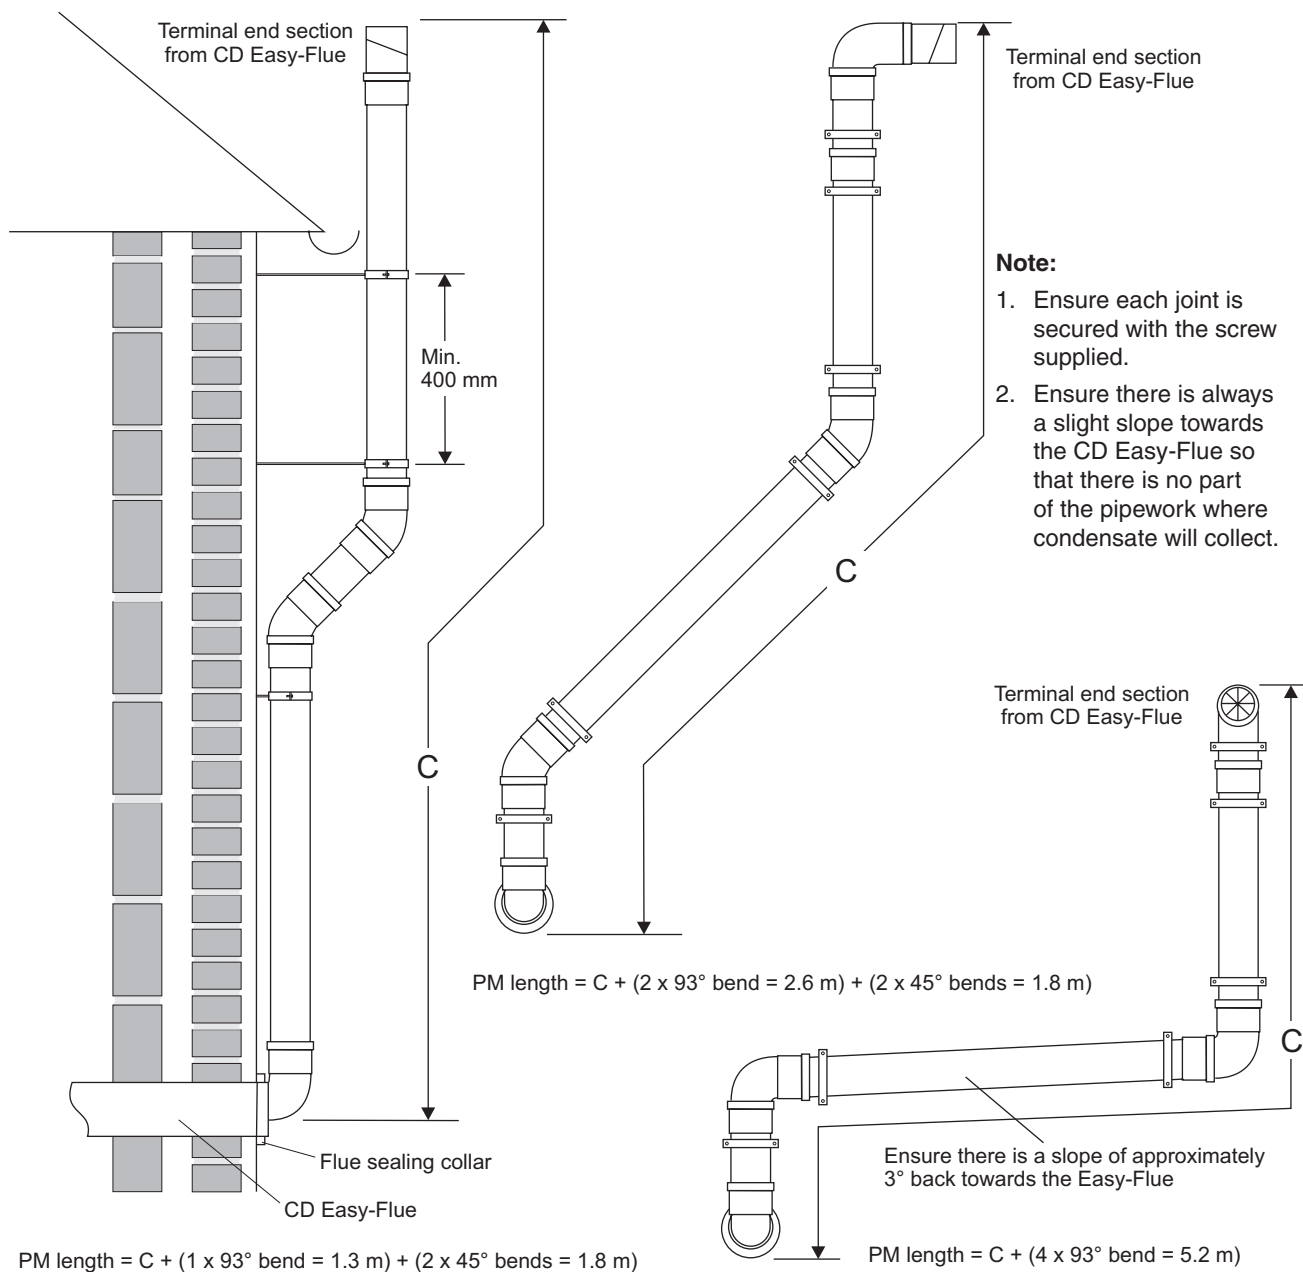

Fig. 5.13
- iii. Connect to the 93° bend the required Plume Management components as detailed and refer to Fig. 5.13.
- iv. Terminate the Plume Management pipework by fitting the terminal end section (push-fit) previously removed. Refer to Fig. 5.13.